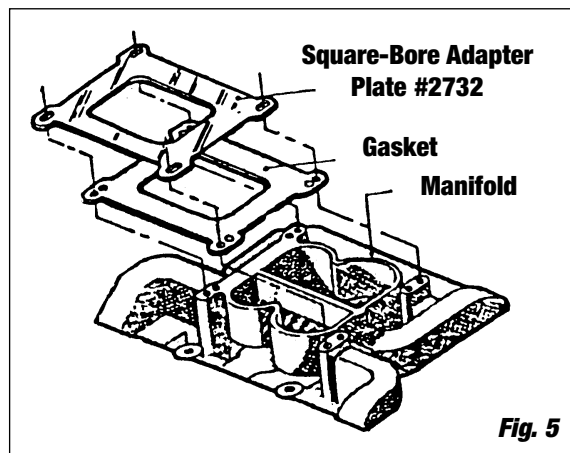

Fig. 5
5. You must use an Edelbrock Adapter #2732 when installing a Thunder Series Carb on some Edelbrock manifolds (**See Fig. 5**). Refer to the instructions included with the manifold for details.